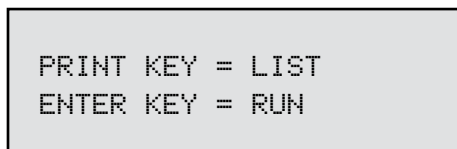

Figure IV-40
Using the UP/DOWN ARROW keys, select one of the four (4) stored programs. Press the ENTER/AUTORANGE key. Any attempt to select a program slot that does not contain a program will result in a double beep for each key press. When a valid program slot is selected, the screen in Figure IV-40 is displayed: